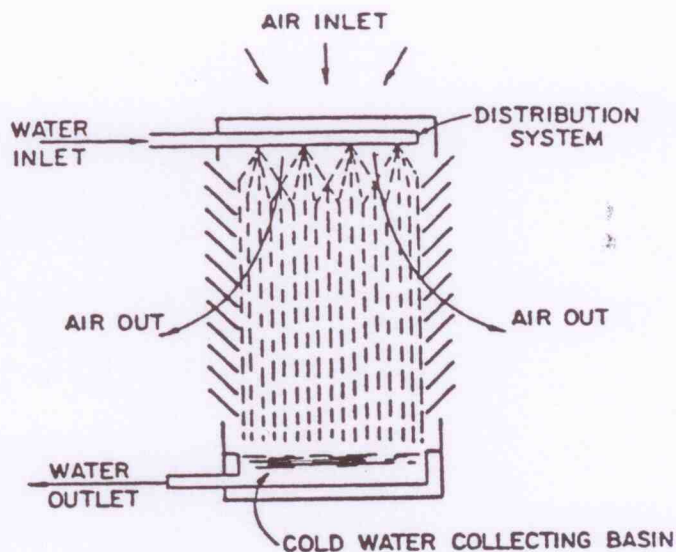

Figure 7. Atmospheric spray cooling tower (Courtesy Buckman Laboratories, Inc.)
- **Atmospheric spray towers** (Fig. 7) are similar to mechanical draft towers but do not have